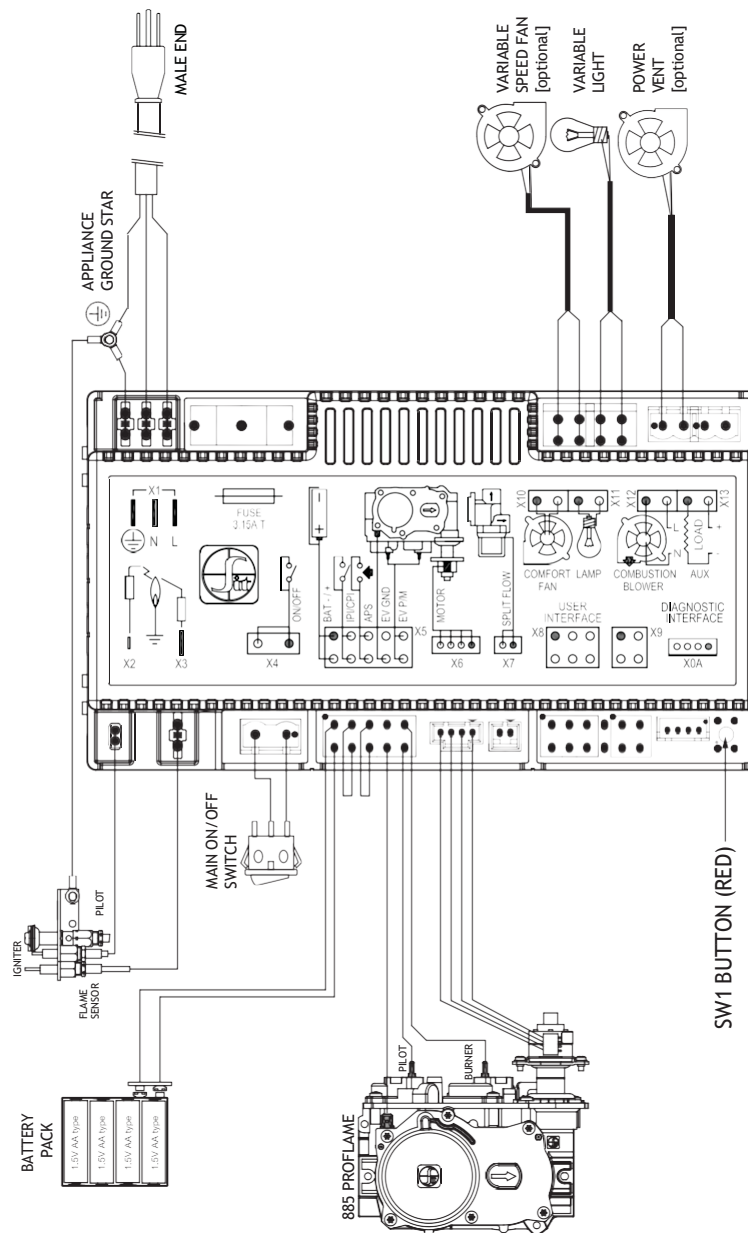

Figure 9.1, Wiring Schematics
9. Plug the fan cord into the receptacle on the IFC control module. See Figure 9.1 on page 55.